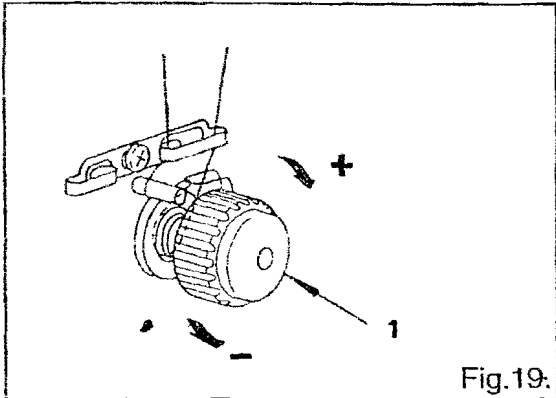

Fig.19.
15. ADJUST NEEDLE THREAD TENSION (Fig.19)
Regulate needle thread tension with tension regulating knob 1. Fig.19.